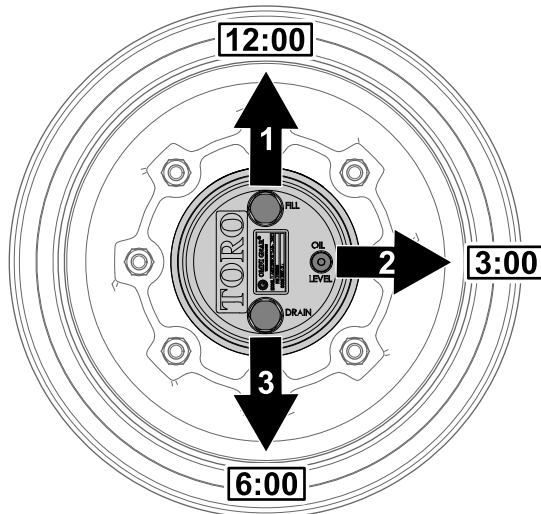

Figure 90
1. Park the machine on level surface, position the wheel so that the fill plug is at the 12 o'clock position, the check plug is at 3 o'clock position, and the drain plug is at the 6 o'clock position (Figure 90).
1. Park the machine on level surface, position the wheel so that the fill plug is at the 12 o'clock position, the check plug is at 3 o'clock position, and the drain plug is at the 6 o'clock position; refer to Figure 90 in Checking the Planetary Gear-Drive Lubricant (page 56).